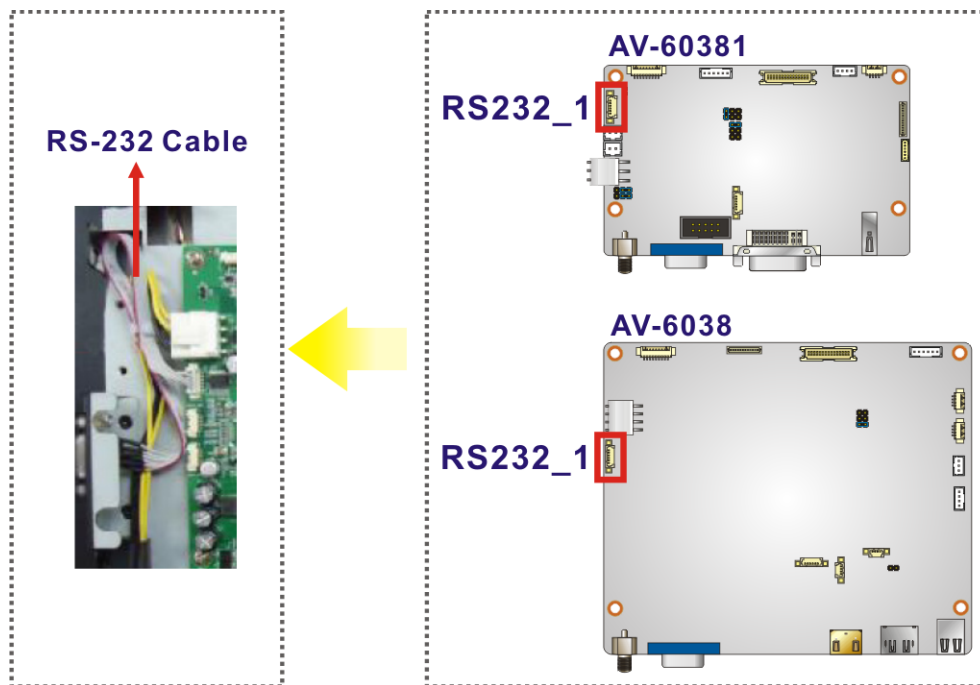

Figure 3-11: Connecting RS-232 Cable
Step 3: Connect the RS-232 flat cable to the internal RS-232 connector (1x9 pin, RS232_1) on the AD board. See **Figure 3-11**.